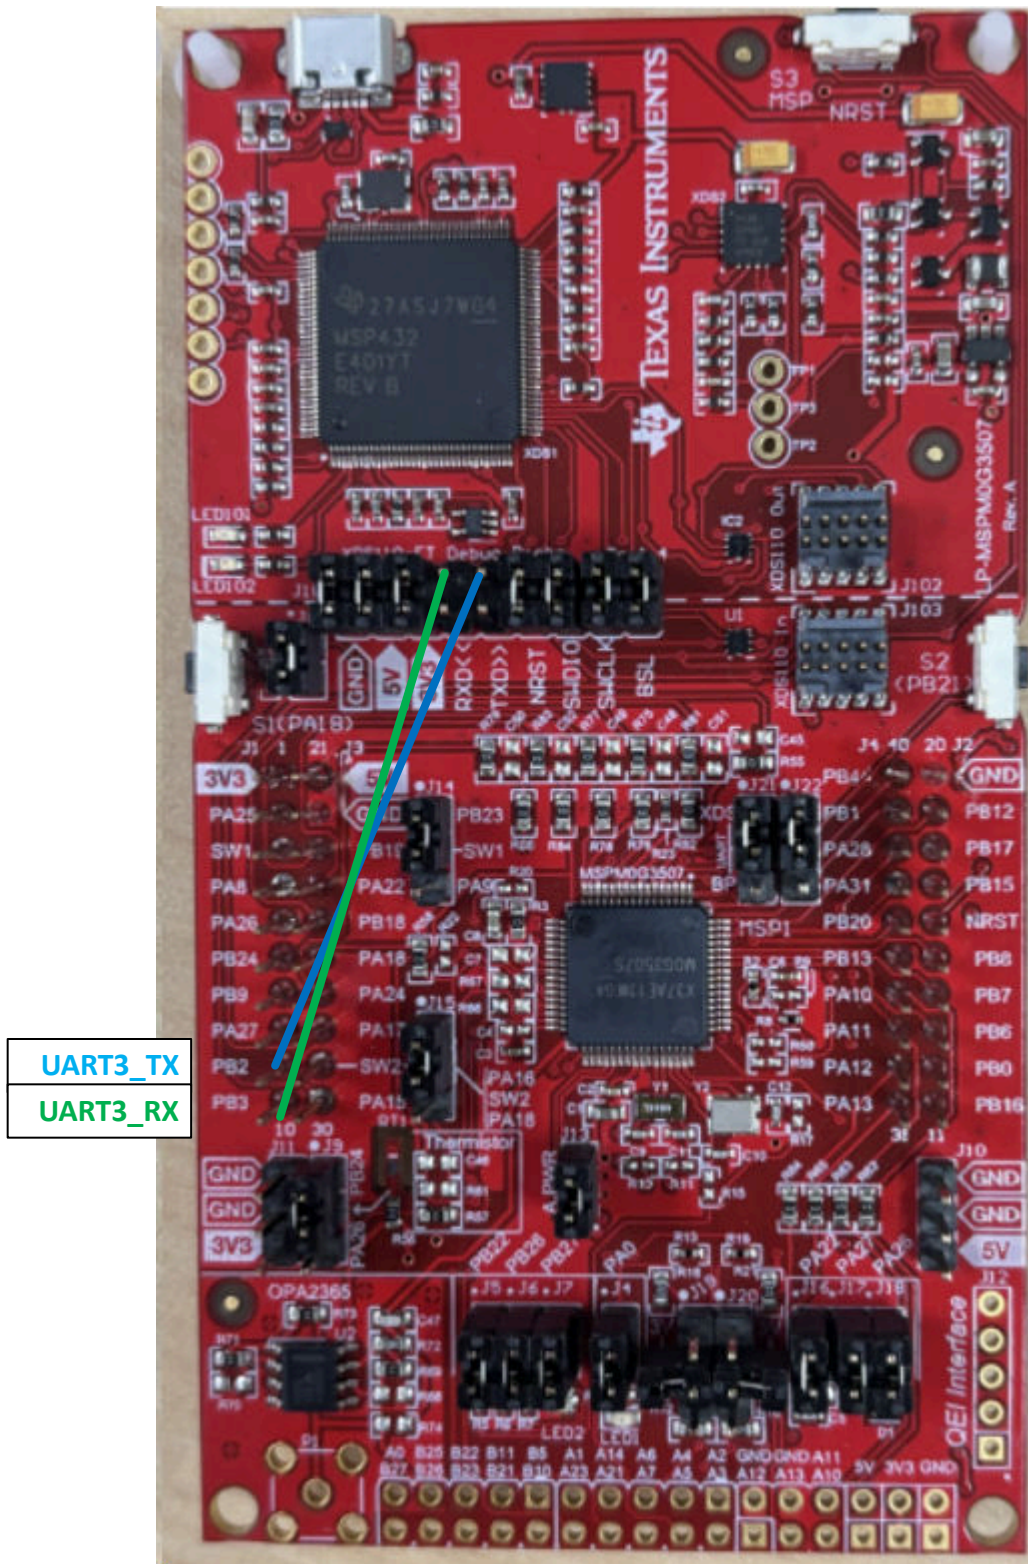

Figure 2-5. LP-MSPM0G3507 Backchannel Connection to UART3
- b. If using the GUI to communicate to the MSPM0 device using USB to backchannel UART, connect the backchannel UART connections to UART3_TX and UART3_RX as shown in Figure 2-5.
4. Supply a voltage compliant with the Power Supply Voltage (VM) range. See the board-specific user's guide or DRV-specific data sheet for recommended voltage range.